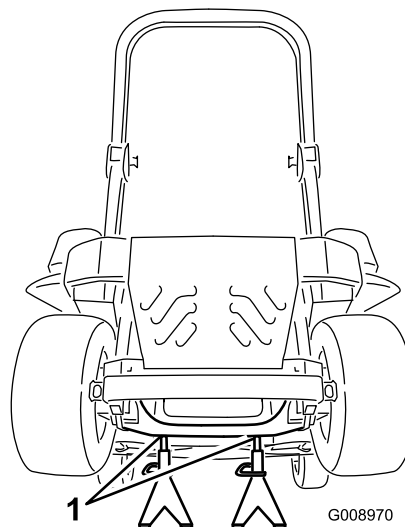

Figure 88
3. Raise the machine and support it with jack stands (Figure 88).
9. Remove the jack stands and lower the machine (Figure 88).